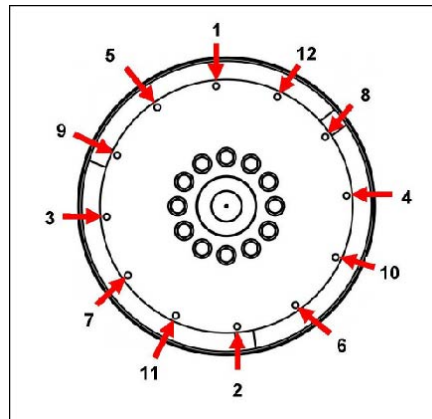

FIGURE 15. FIXING SEQUENCE
10. Remove the alignment dowels. Fit the coupling bolts, using heavy gauge washers under the heads. Tighten the bolts to fix the coupling disc to the flywheel, in the sequence shown in Figure 15 on page 27.